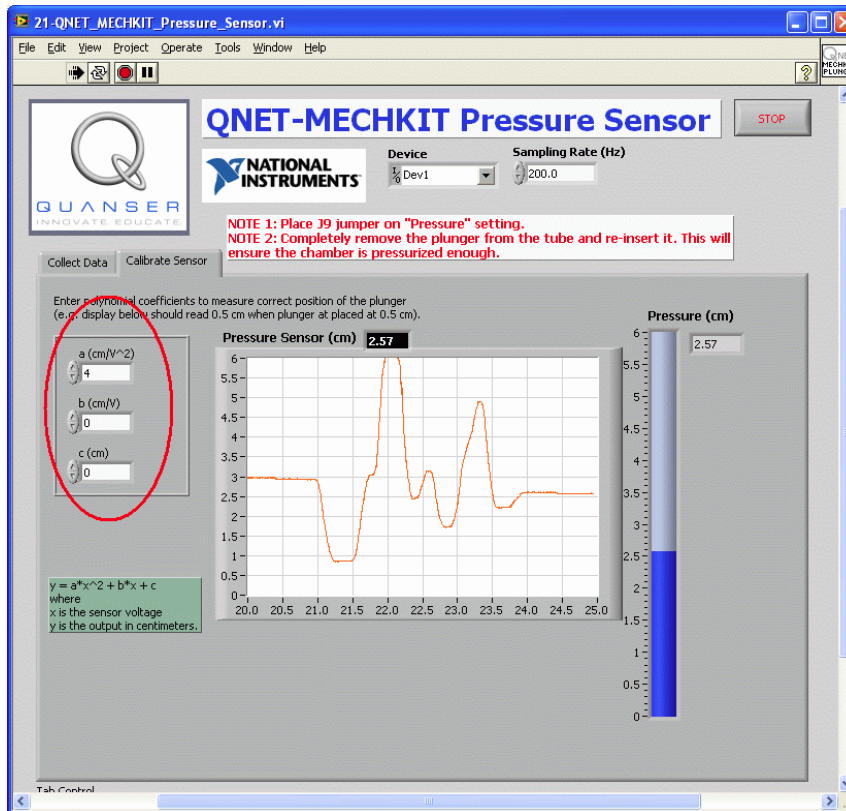

Figure 4.3: Calibrating the pressure sensor
2. In the Calibrate Sensor tab, enter the polynomial coefficients, as illustrated in Figure 4.3, to measure correct position of the plunger. Verify that the sensor is reading properly, e.g. display should read 0.5 cm when plunger is placed at 0.5 cm.